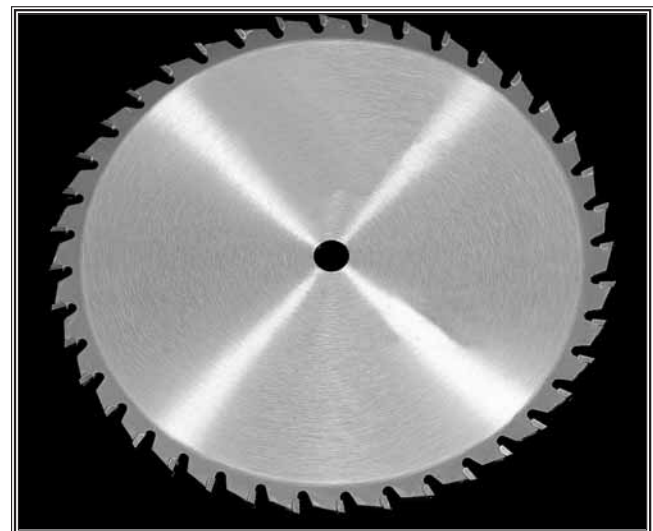

Figure 59. Crosscutting blade.
- **Figure 59** shows an example of a crosscutting blade. This type of blade is designed for quick, smooth action when making cuts across the grain. Drawbacks to this type of blade are buildup of heat, slower feed rates and premature wear of the blade because the greater number of teeth creates more friction.